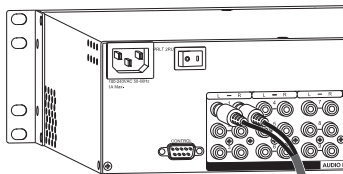

FIG. 2 Insert RCA plugs into RCA jacks
1. Insert RCA plugs into RCA jacks according to labels on the enclosure (FIG. 2).